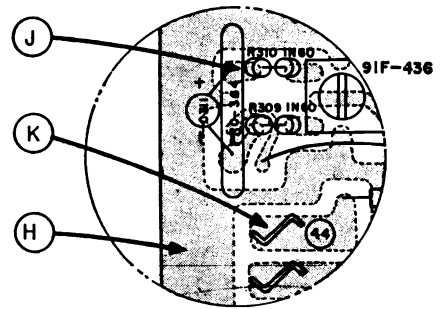

Figure 4 TEST POINTS ON P.C. BOARD
3. Connect the VTVM between test point ① and chassis ground ② (Fig. 4).
5. Disconnect one lead of the VTVM from test point ① and reconnect to test point ③ (Fig. 4).